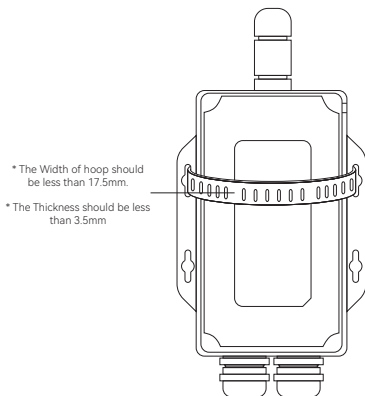

Figure 3-1 Schematic diagram of hoop ring
(1) Pass the hoop through the fixing hole of the product, as shown in Figure 3-1: